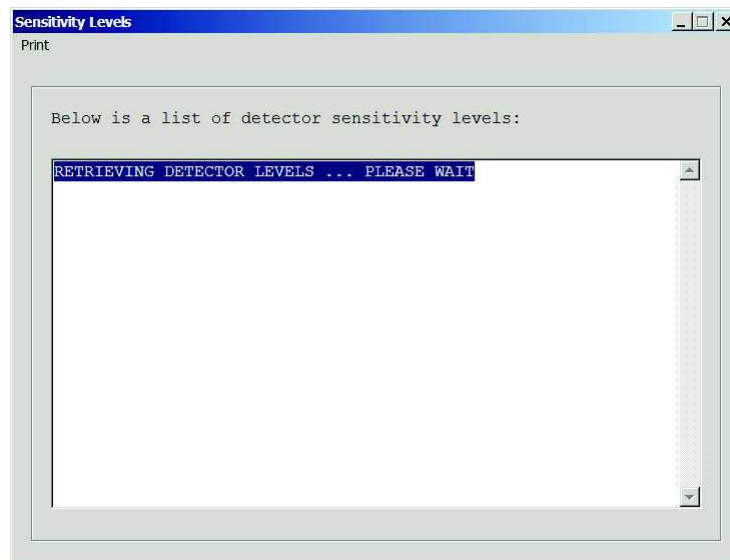
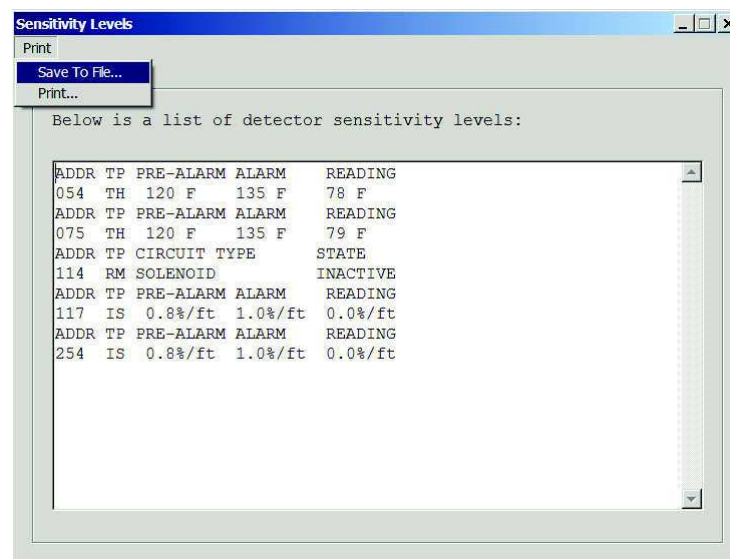

Figure 4-17. Retrieving Sensitivity Levels
Figure 4-18. Displayed Sensitivity Levels
4. Select **<OK>**. The following 'Sensitivity Levels' dialog is displayed. In response, the Sensitivity Levels' dialog announcing the retrieval of the sensitivity levels (Figure 4-17) is displayed. After the query has finished, the sensitivity levels (Figure 4-18) are displayed. Within the 'Sensitivity Levels' screen, there are two menu options: Save As and Print.